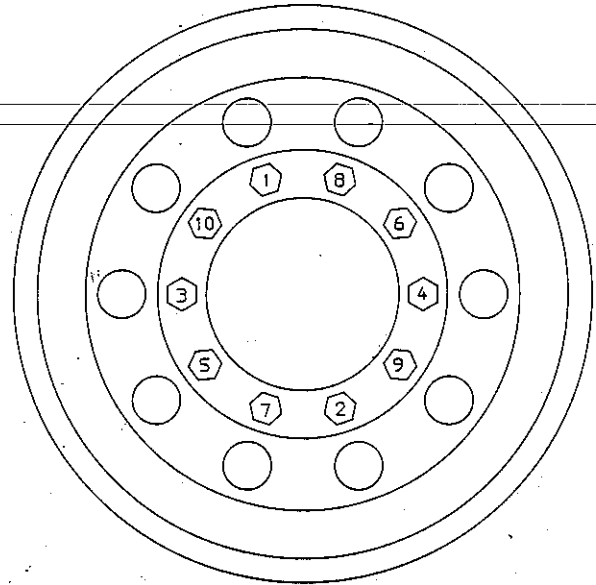

Figure 8-2. Lug Nut Tightening Pattern
12. Install spare and replace lug nuts. Tighten progressively in the sequence shown in figure 8-2 starting with # 1 and proceeding to # 10. Final torque will be 450 to 500 foot-pounds.